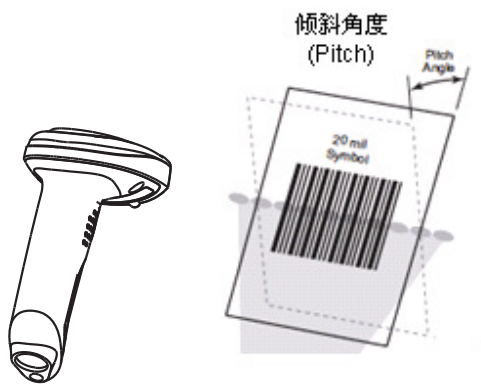

Fig. 1-10
- ✧ Pitch : $\pm 60^\circ$, 0° Roll and 0° Skew (Fig. 1-10)